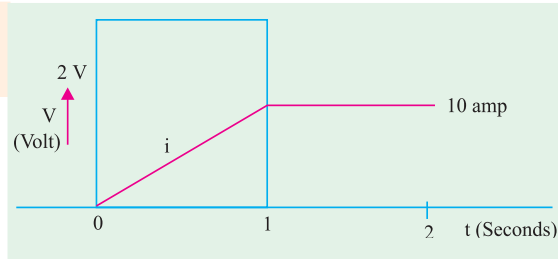

Fig. 8.16
**Example 8.26.** A voltage as shown in Fig. 8.16 is applied to an inductor of 0.2 H, find the current in the inductor at  $t = 2$  sec.